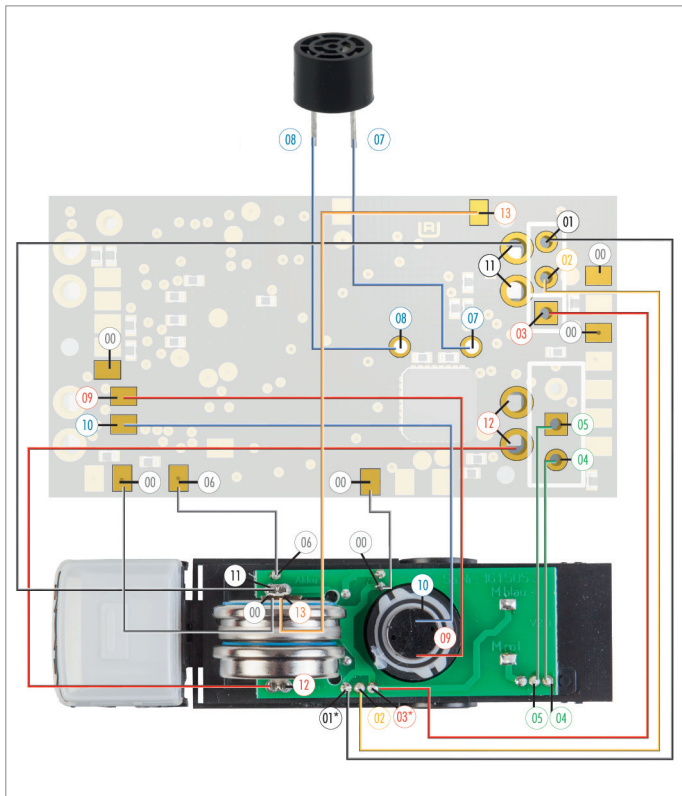

Fig. 43: Connection diagram, lorry model with universal PCB, plugged batteries
***NOTE:** Pay attention to the "+" (plus) pole you have previously defined and marked at the charging socket, and connect it with pad "03" on the conversion PCB. In connection diagram Fig. 43, pads "01" and "03" are on vehicle side merely examples of pad assignment. See also Chapter "Converting the vehicle".